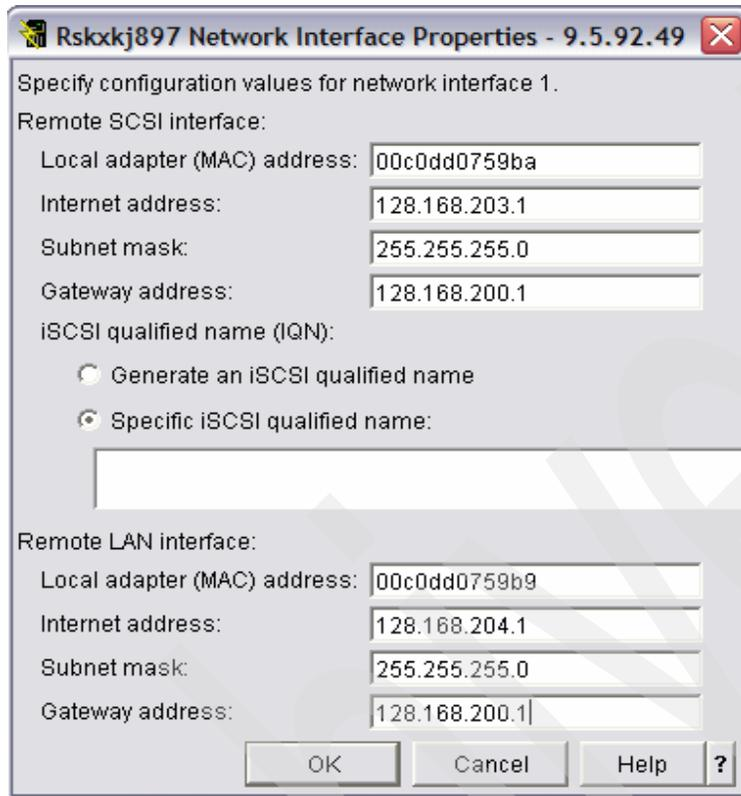

Figure 4-23 Configuring remote interfaces in the remote system configuration object
9. In the Network Interface Properties (Figure 4-23), input the correct addresses for the SCSI and Lan interfaces on the remote device. If there are multiple ports that you plan to use on the machine, add the same information for each port.